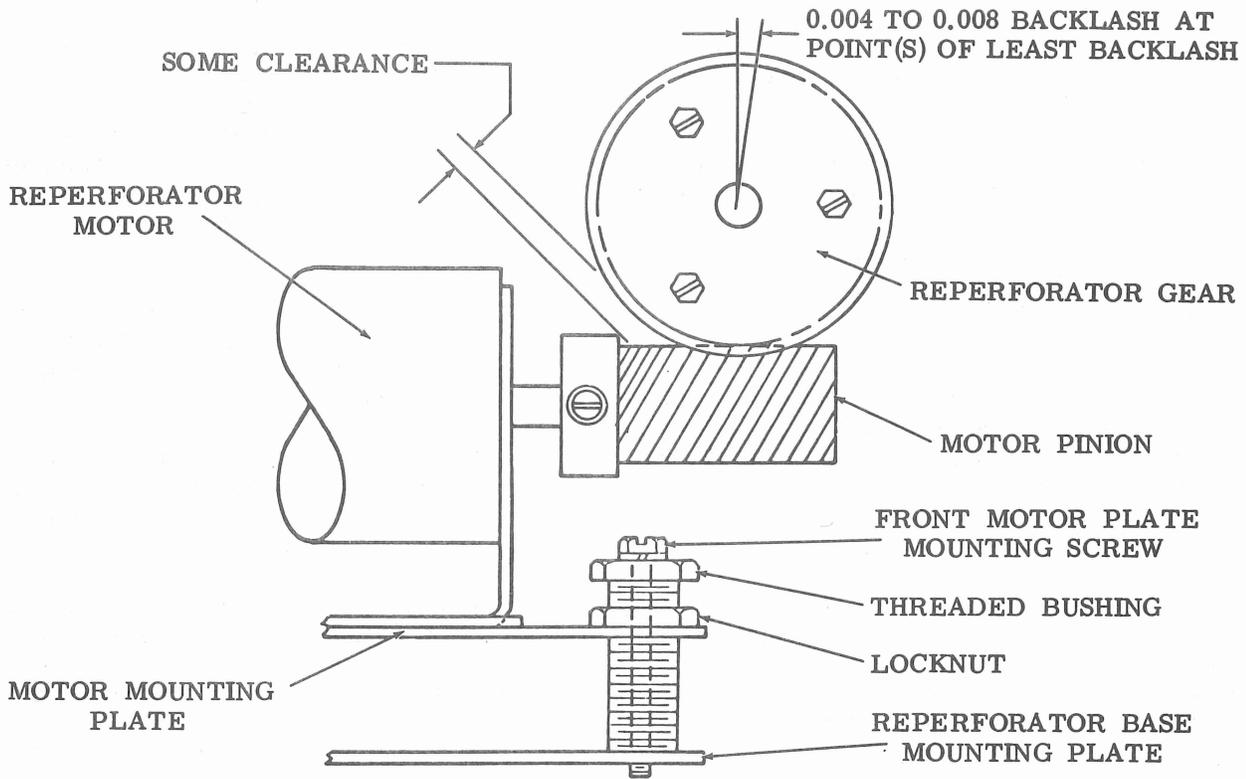

Figure 17 - Reperfurator Motor Pinion and Gear Mesh
3.04 To replace the reperformer unit, reverse the removal procedures, except that the motor pinion and reperformer gear engagement must be checked for a barely perceptible backlash, and there must be some clearance between the motor pinion retainer and the reperformer gear. If necessary, proceed as follows (Figure 17).